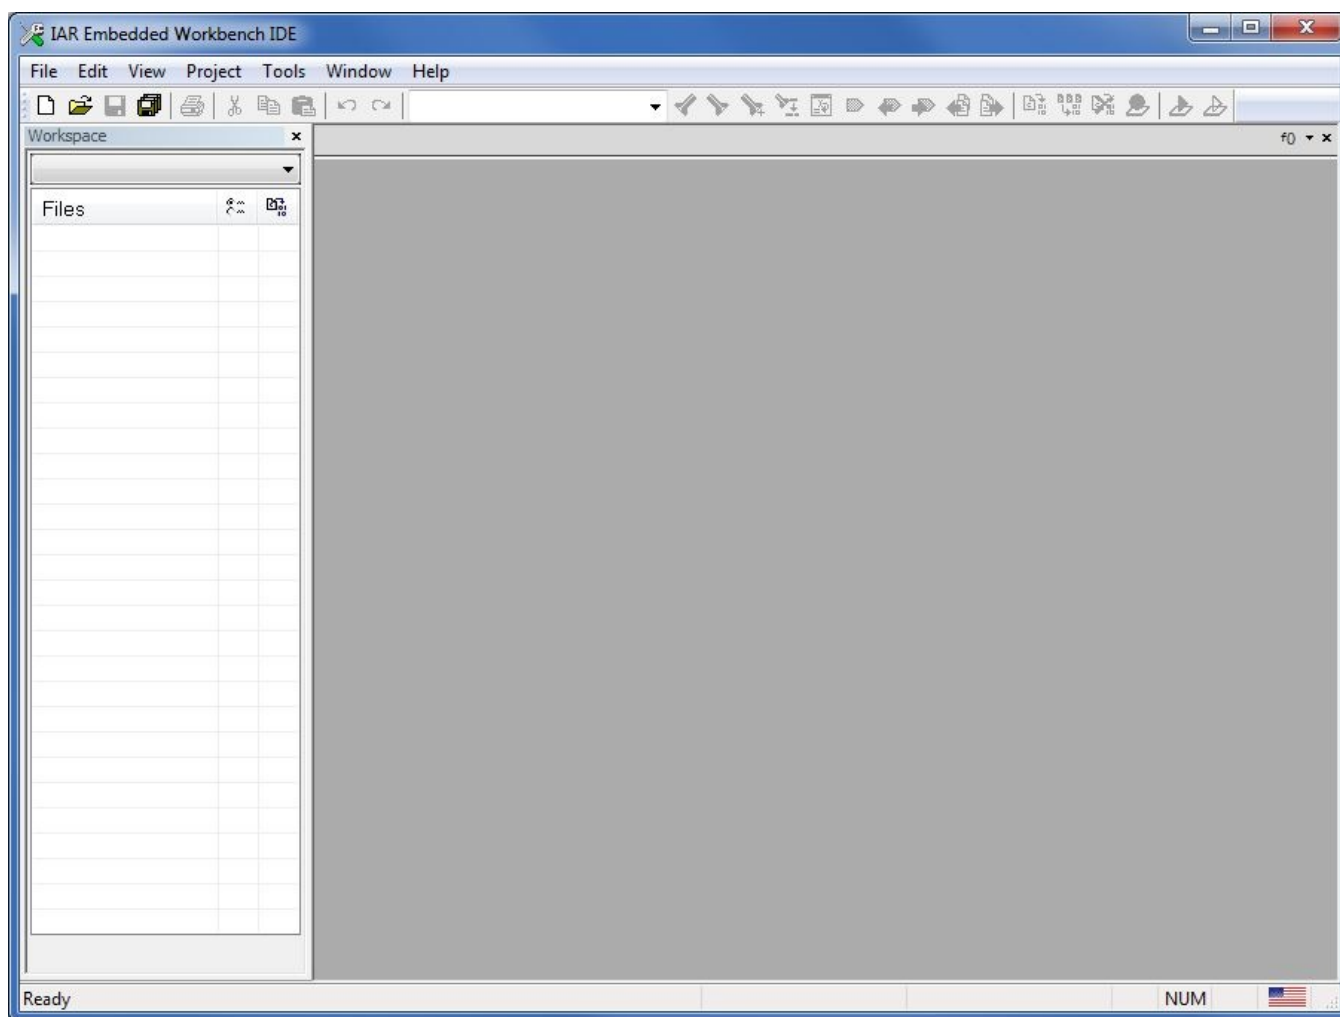

Figure 1.
1. Start the IAR Embedded Workbench IDE by selecting it from the Windows Start Menu. When the IDE loads, it has a blank screen (see Figure 1).